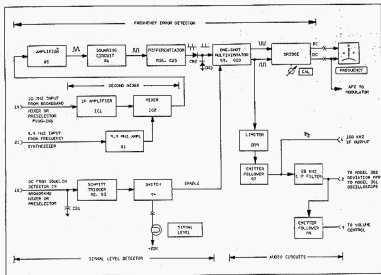

Figure 4-4. Second IF and Discriminator Circuits, Simplified Block Diagram
- 4.104 Figure 4-4 is a block diagram of the Second IF and Discriminator circuits and Figure 6-5 is the schematic.
4.110 For more than half the frequencies that can be selected, the L.O. frequency is 10 MHz below the dialed frequency, Table 4-1. When this is true, relay A4K1 on the Frequency Meter board, Figure 4-4, is de-energized and the input from the Q10 side of the Frequency-Error Detector is applied to the positive side of the meter.